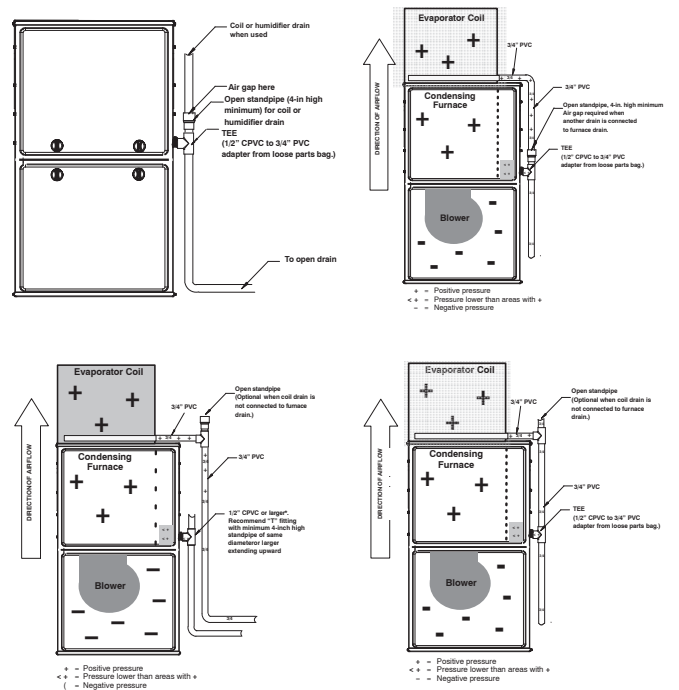

Fig. 12 – Example of Field Drain Attachment
- All condensate piping is at least 3/4-in. PVC and there is a relief tee at the top of condensate drain piping as shown in Fig. 12.